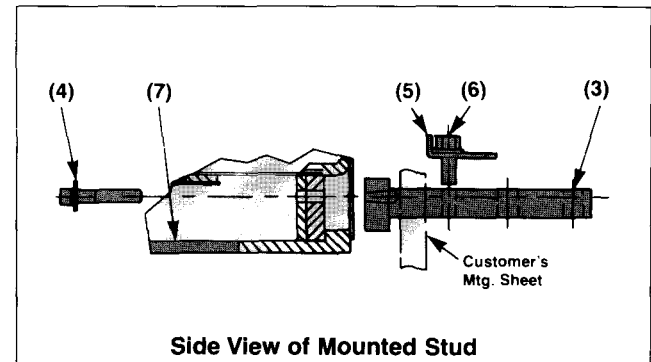

Figure 4
- Attach the rear connecting studs to the mounting template using the $\frac{5}{16}$ -18 hex head cap screws (4) provided (Figure 4). Note that the rear strap mounting pads are not symmetrical. The studs must be mounted with the orientation (Figure 4).
- Secure the assembly to the panel by attaching each connecting stud with the panel clamp (5) hex head bolt, lockwasher and flat washer (6) supplied. Torque to 96 in. lb. (Figure 4).
- G. Mount the circuit breaker by positioning it over the rear busbar mounting pads. Attach each pole (Line and Load) of the circuit breaker to the connecting busbars with the two $\frac{5}{16}$ -18 hex head cap screws, flatwashers and lockwashers (4) (Figure 4). Torque each screw to 72 in. lb.
- H. Insert the end shields (7) into the slots provided at the line and load ends of the breaker (Figure 4).